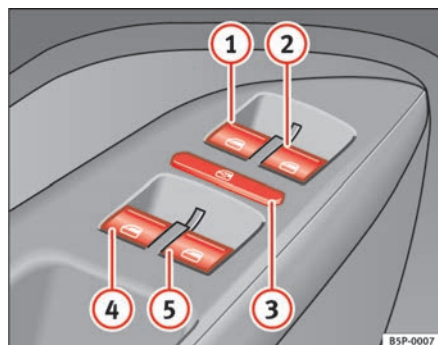

Fig. 69 Detail of driver door: controls for the front and rear windows
The buttons ⇒ page 106, fig. 69 ① and ② have two levels for opening the window and two for closing it. This makes it easier to open or close windows to the desired position.